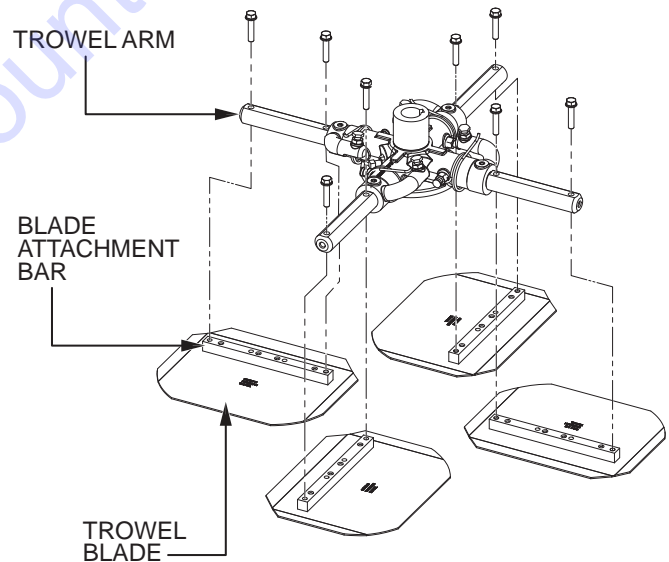

Figure 65. Blade Removal
- Remove the bolts and lock washers from each of the trowel arms, then remove the blades as shown in Figure 65.